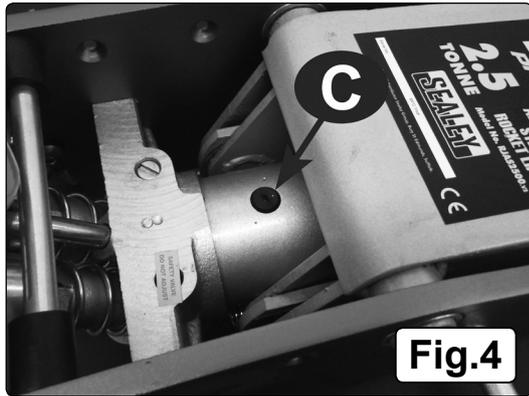

Fig.4
- 7.3.2. With the jack in the level position, remove the 4 screws which hold on the top cover and remove the oil filler plug (C) (Fig.4).